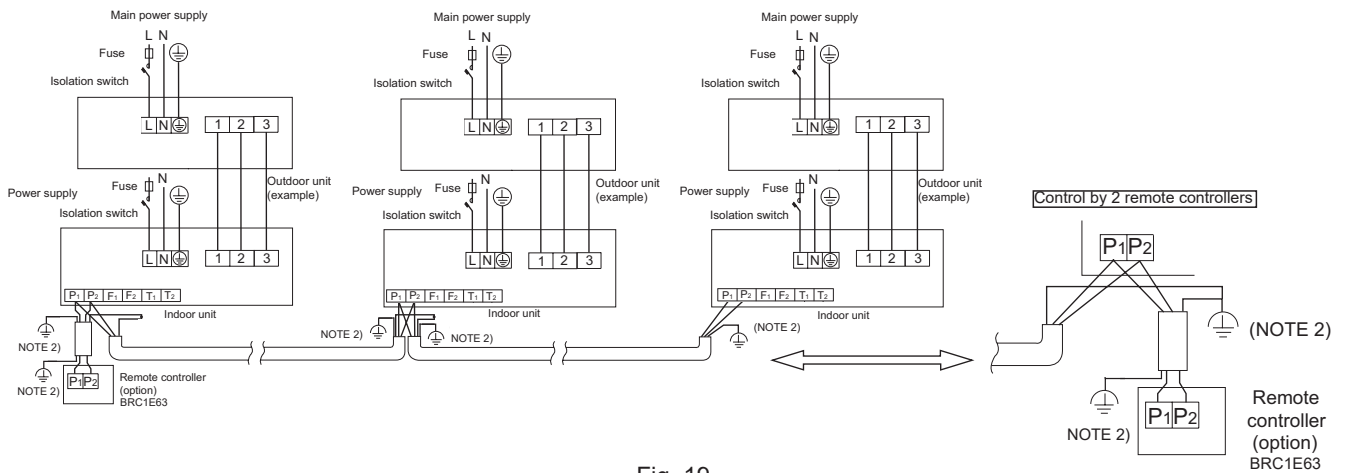

Fig. 19
- Group control: 1 remote controller controls up to 16 indoor units (All indoor units operate according to the remote controller). (Fig. 19)
4. When "Group Control" and "Control by 2 remote controllers" are used, connect the remote controller with the indoor unit which is at the end. (Fig. 19)